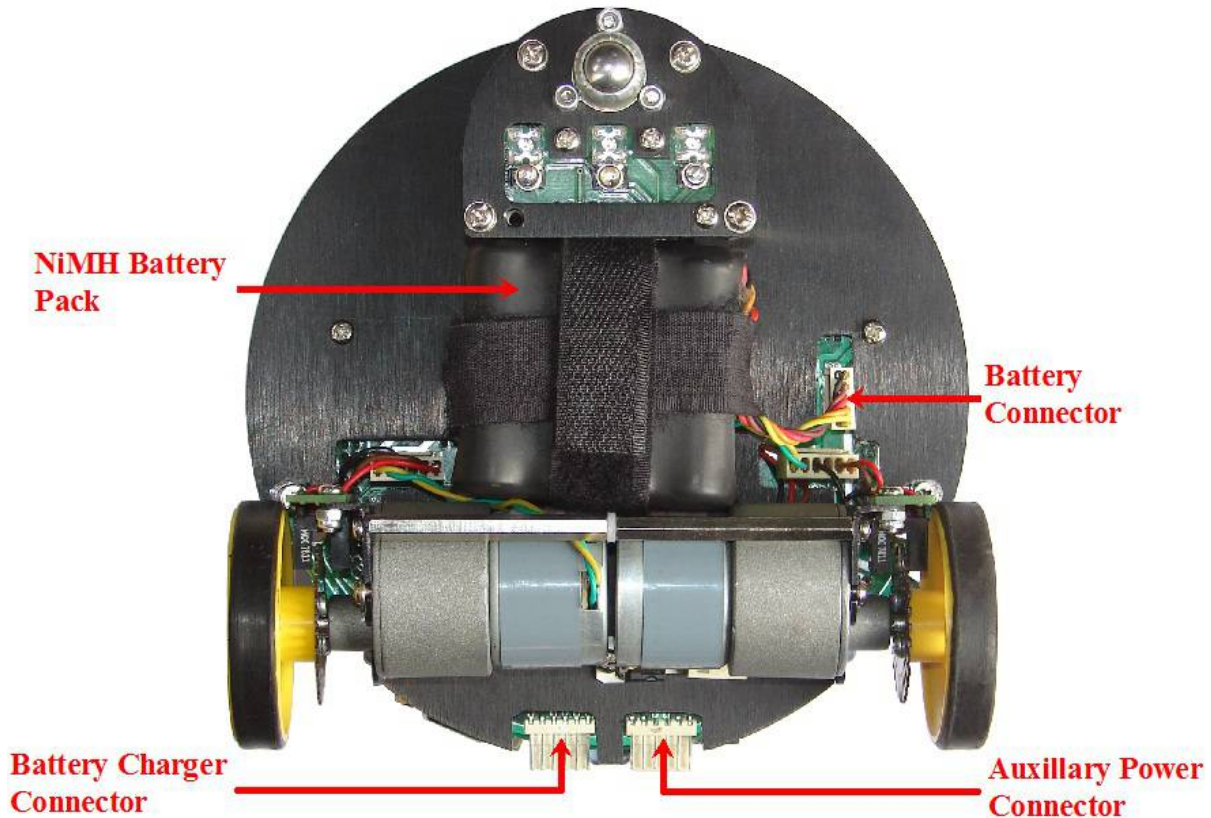

Figure 3.8: Connecting the battery on the Fire Bird V main board
For the safety during transportation, robot’s battery is disconnected. Before connecting battery to the robot, make sure that robot is turned OFF. To do this, move the power switch towards the “AP”. Figure 3.8 shows the battery connector. Insert battery's 5 pin relimate connector in the socket. To turn ON the robot, move power switch towards the “BP”.
1. Disconnect the battery by removing the 5pin relimate connector on the main board which is located at the bottom of the robot. (refer to figure 3.8)